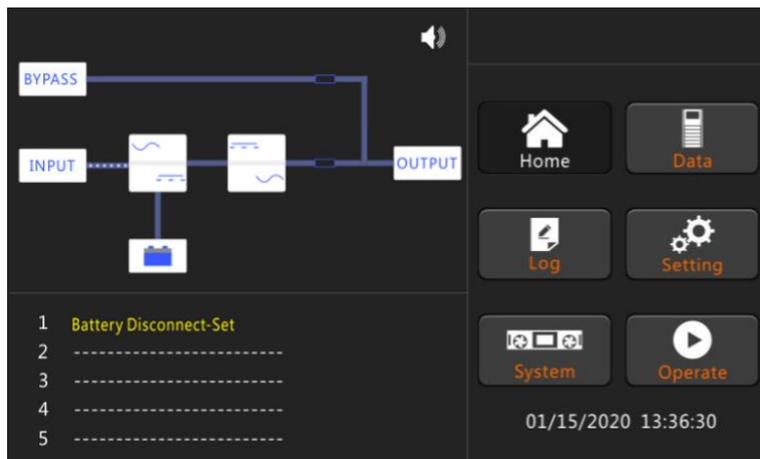

Figure 4-1 Rectifier starting
- 3) Notice the energy flowing diagram and alarms on the home page, as is shown in Figure 4-1.